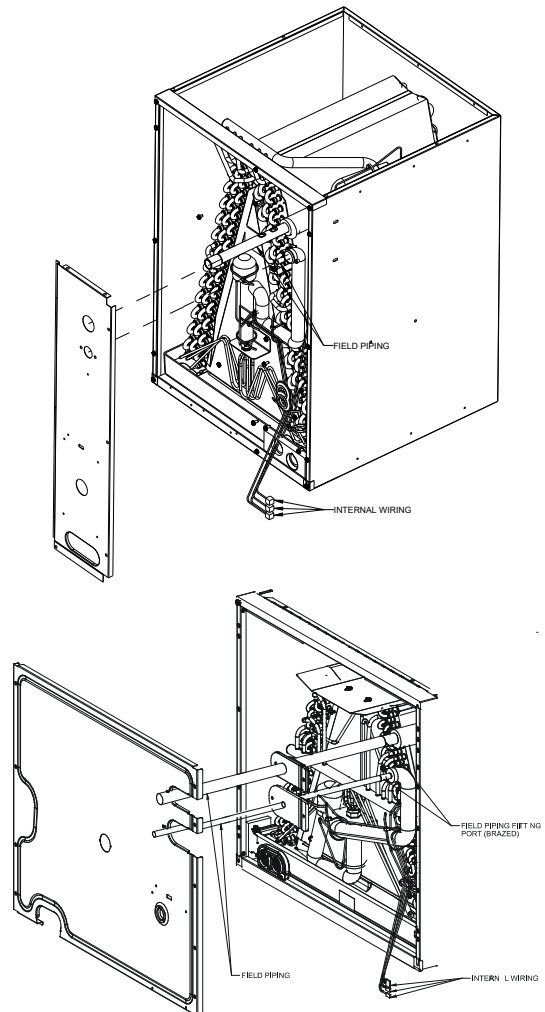

Figure 5
- Slide right front panel along field tubing while cautiously guiding component wiring back through panel wireway (See Figure 5).